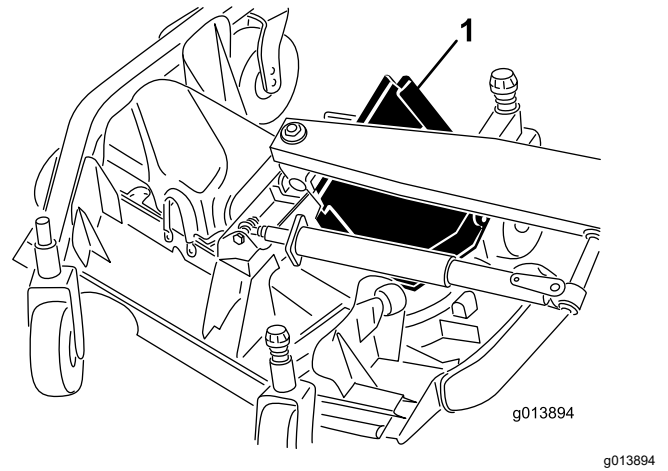

Figure 48
6. Lift the front edge and guide it between the lift arm and the roller to remove it (Figure 48).